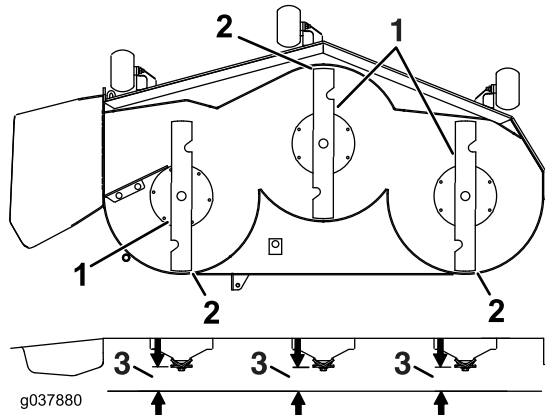

Figure 87
- Check the front-to-rear blade level (Figure 87). Ensure the front blade tip is lower than the rear blade tip as shown in the block height and rake table. If adjustment is needed, continue with this procedure.